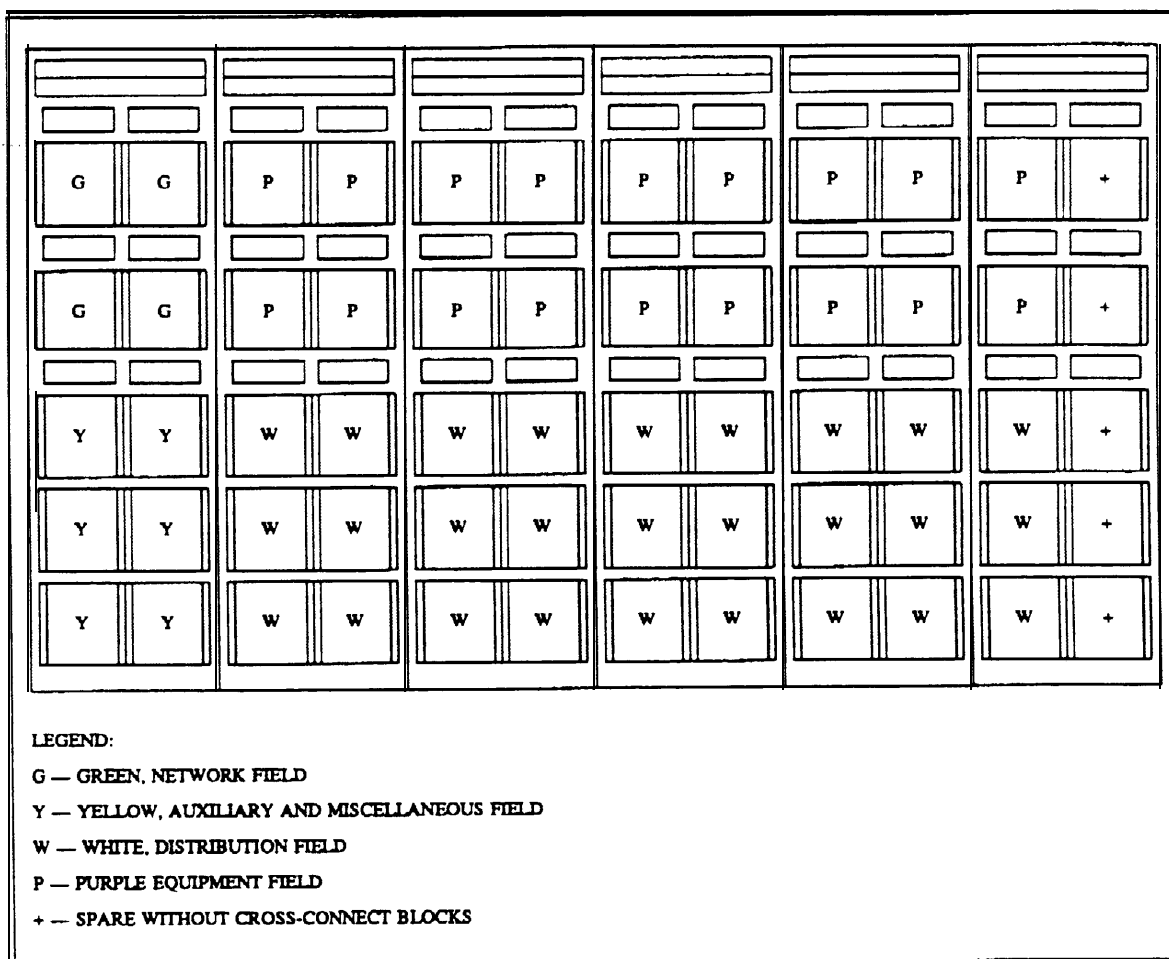

Figure 7-3. Six Type-1 Frames with 18,000-Pair Capacity
The type-1 frame shown in figure 7-3, *Six Type-1 Frames with 18,000-Pair Capacity*, is the most widely used. You can terminate 3000 cable pairs on each side. Cross-connections on the type-1 are made between the top and the bottom of the frame. This means that all equipment cables are connected to the top half of the frame and all distribution cables to the bottom half. Exceptions occur only at the green (CO) and yellow (miscellaneous) fields.